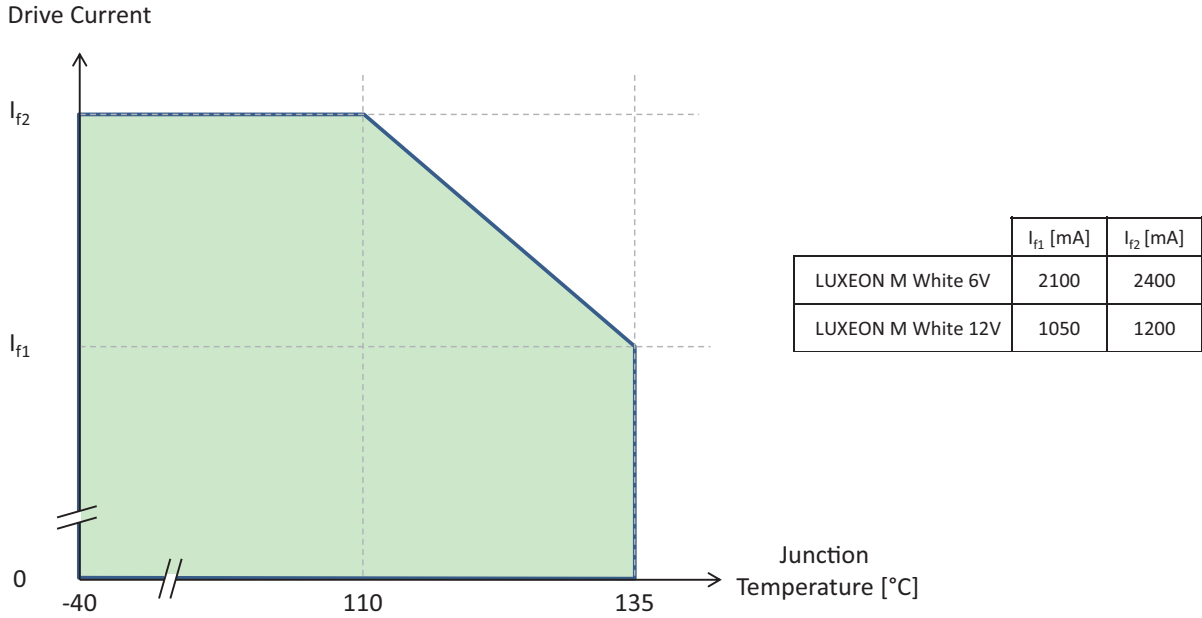

Figure 1. Maximum permissible operating conditions for LUXEON M White.
- See Figure 1 for more details on the maximum permissible operating conditions for LUXEON M White.
- Residual periodic variations due to power conversion from alternating current (AC) to direct current (DC), also called "ripple", are acceptable if the following conditions are met:
Notes for Figure 1: